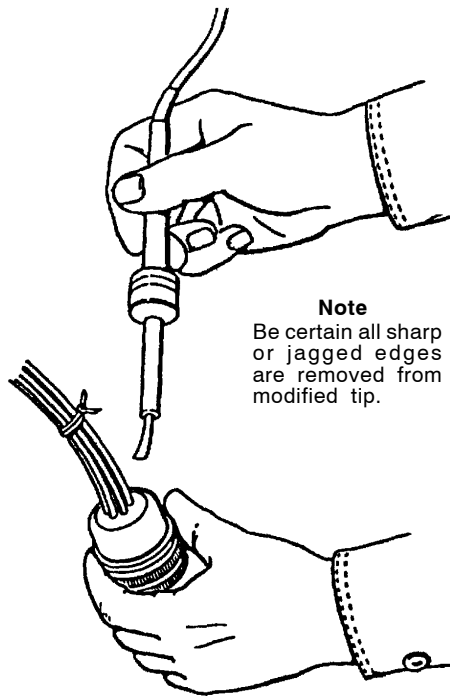

Figure 6. Potting Removal
(4) Fault catalyst or base compound. It is wise to make a 25 gram test sample of each lot of both base and catalyst prior to starting the potting operation.
(5) Organic impurities such as zinc chromatic putty, cleaning solvents or traces of old potting will inhibit cure of MIL-S-23586 potting compounds. Through cleaning will prevent this problem.
a. Using a soldering iron (see para 19) with a modified tip as shown in Figure 6, cut away the potting to gain access to the desire contact(s).